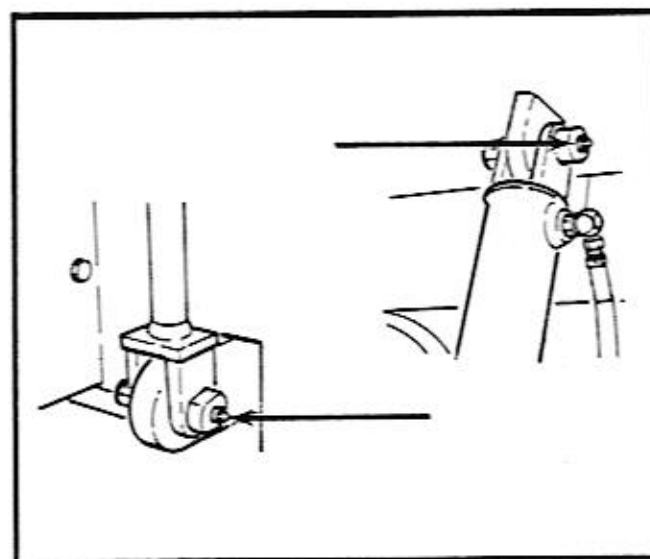

Figure 9-7. Moldboard Cylinder
There are two (2) fittings per cylinder. Lubricate through each of the four (4) fittings with two (2) shots of MPG-EP grease. Refer to Figure 9-7.